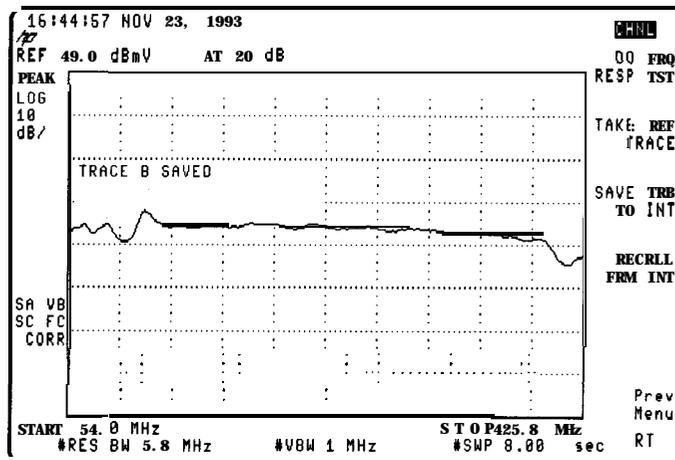

Figure 5-13. Trace B Saved to Internal Memory
4. Press **SAVE TRB TO INT** , enter a trace register number, then press **ENTER** to store the reference spectrum and analyzer state in nonvolatile memory. See the **SAVE TRB TO INT** function for more information about saving trace B. Wait until the message **TRACE B SAVED** appears before proceeding. See Figure 5-13.